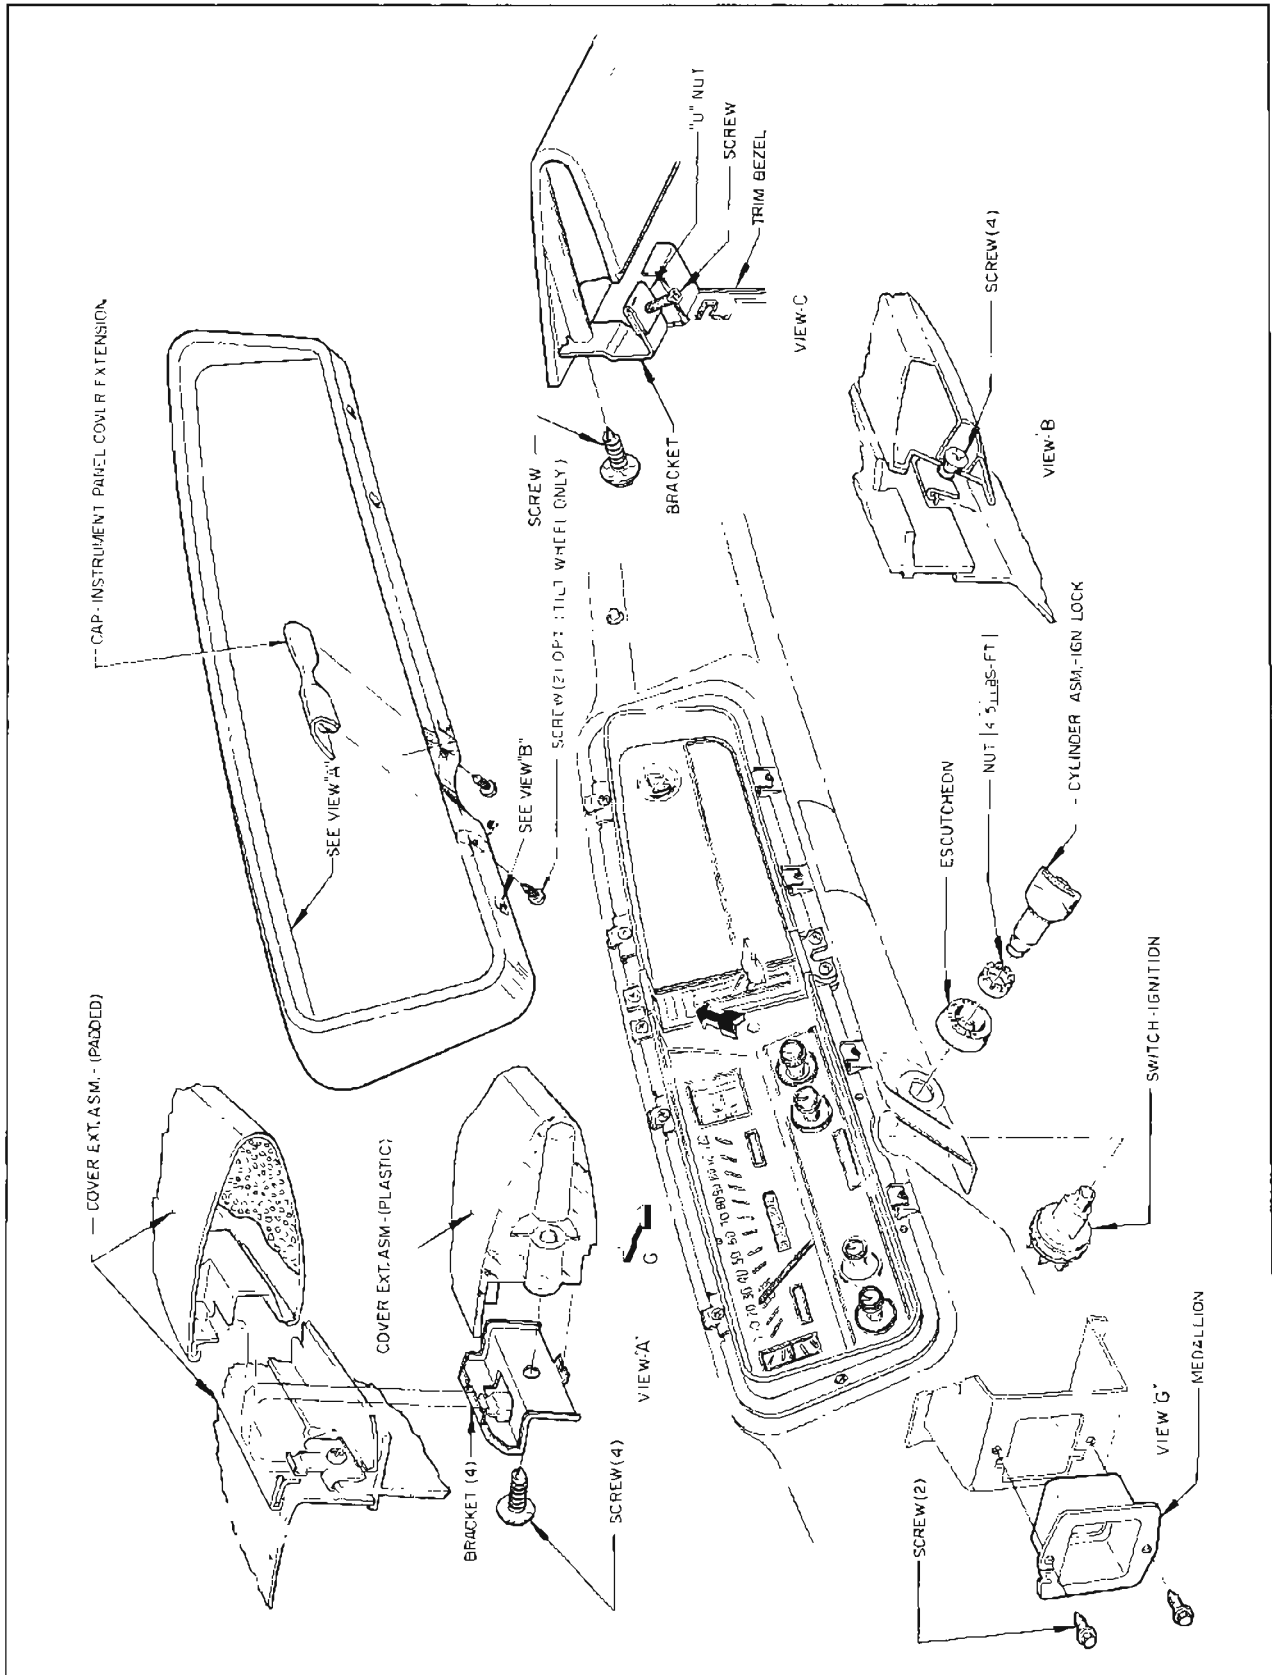

Figure 10-65—Instrument Panel Cover Extension and Ignition Switch Installation
1. Remove cover extension assembly by removing four screws across the bottom, then raising the entire extension to disengage it from four clips across the top. See Figure 10-65.